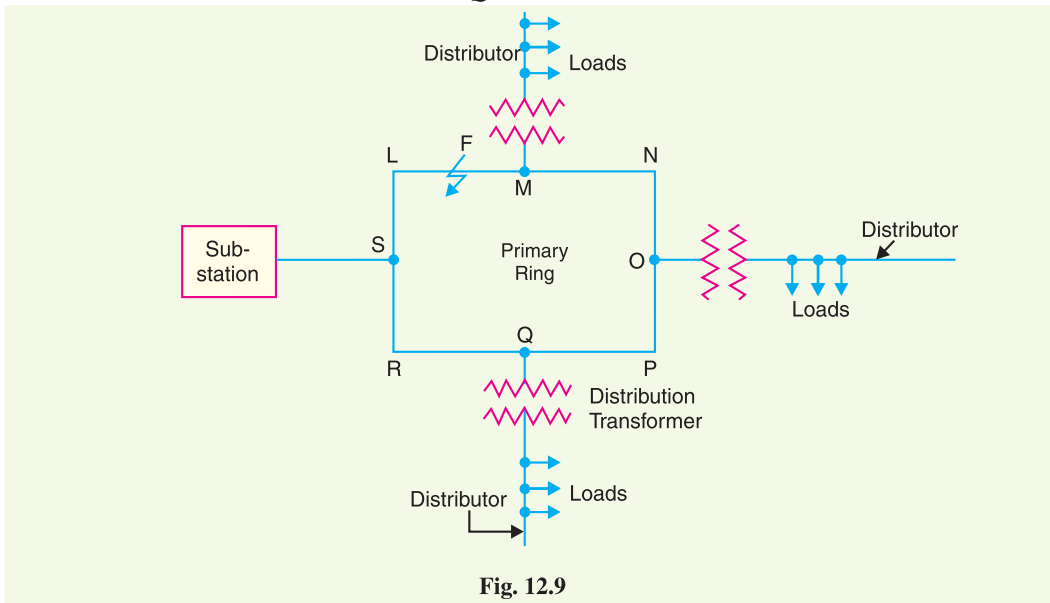

Fig. 12.9
- (ii) **Ring main system.** In this system, the primaries of distribution transformers form a loop. The loop circuit starts from the substation bus-bars, makes a loop through the area to be served, and returns to the substation. Fig. 12.9 shows the single line diagram of ring main system for a.c. distribution where substation supplies to the closed feeder LMNOPQRS. The distributors are tapped from different points M , O and Q of the feeder through distribution transformers. The ring main system has the following advantages :